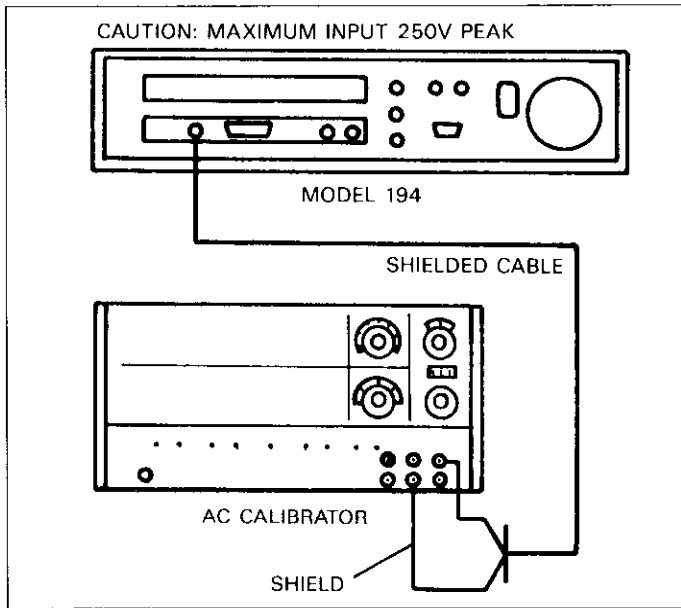

Figure 7-6. AC Frequency Response Calibration Connections
1. Connect the AC calibrator to the channel being tested using the connections shown in Figure 7-6.